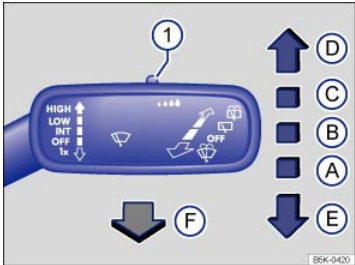
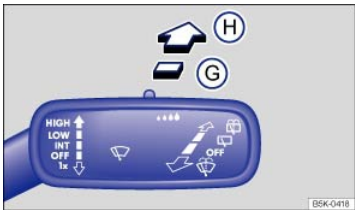

Fig. 102 Operating the front windshield wipers.
Fig. 103 Operating the rear wiper.
Move the lever to the desired position ⇒ Fig. 102 ⇒ ① :
- ① **☔☔☔** Switch for adjusting the windshield wiper interval settings (vehicles without a rain sensor) or the sensitivity of the rain sensor (vehicles with a rain sensor).
Move the lever to the desired position ⇒ Fig. 103 ⇒ ① :